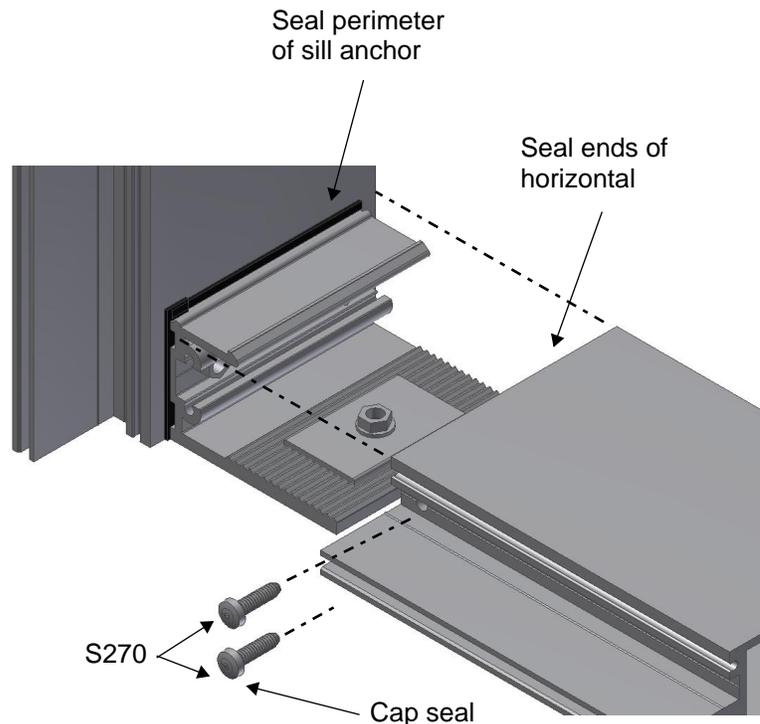

Figure 11: Slide the end of the horizontal onto the sill anchor and fasten using two S270 fasteners.
- Slide the end of the horizontal onto the frame clip, and fasten the horizontal to the frame clip using two S270 fasteners, as shown in Figure 11.